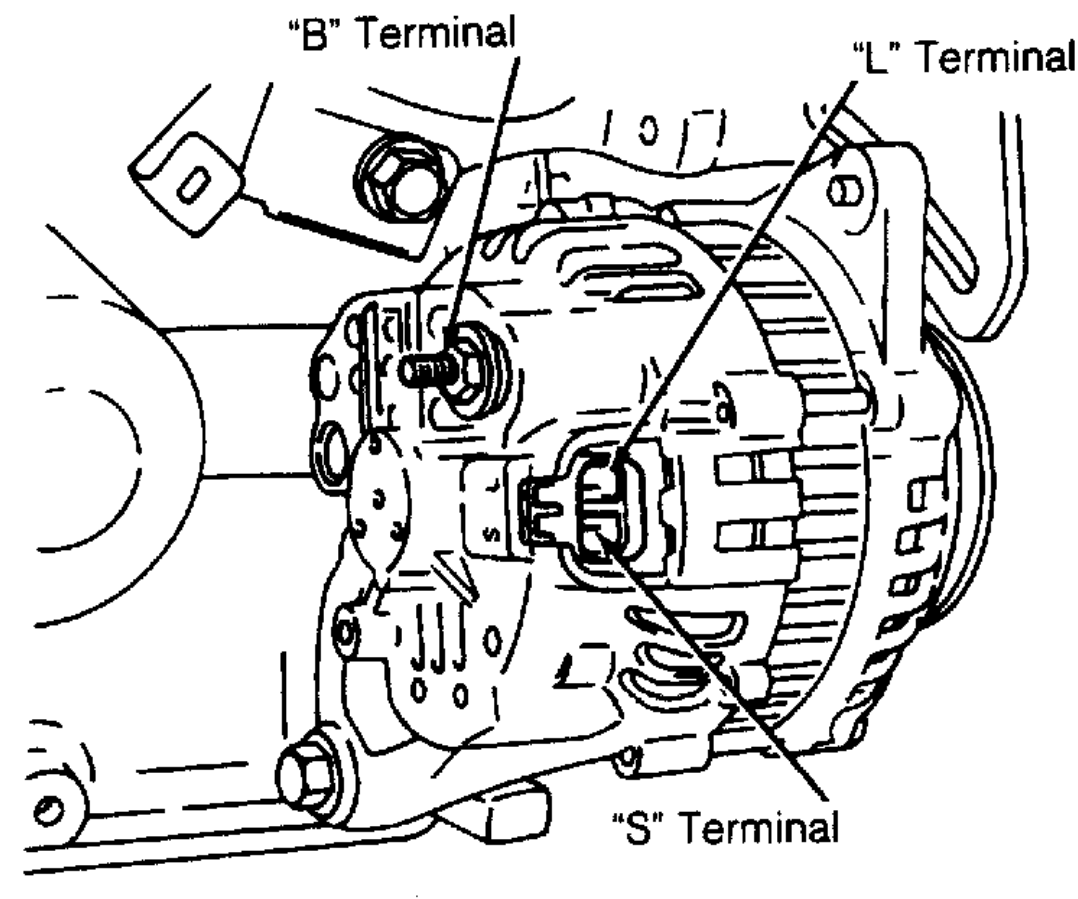

Fig. 2: Identifying Alternator Test Terminals
CAUTION: DO NOT start engine with "L" and "S" terminal connectors disconnected from alternator. DO NOT allow "L" terminal to contact ground while engine is running. See Fig. 2 .
1. Turn ignition switch to OFF position. Connect positive voltmeter lead wire to alternator "B" terminal and negative wire to ground. See Fig. 2 . Ensure voltmeter indicates battery voltage. If voltmeter indicates zero volts, an open circuit exists in wire between "B" terminal and battery positive terminal.
6. Allow engine to idle. Turn off all accessories to remove load from system. Disconnect voltmeter. Connect negative lead of voltmeter to ground. Using positive lead of voltmeter, backprobe "S" terminal connector at rear of alternator. See Fig. 2 .